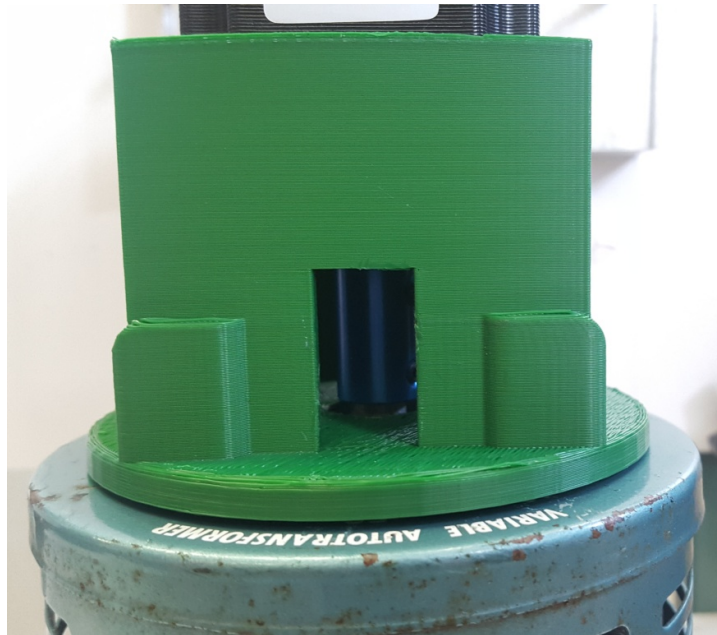

Figure 17 Coupler with lock screw
8. Navigate to Tools->Serial Monitor on the taskbar. This window keeps the user updated on the status of the experiment. The navigation procedure is shown in Fig 17. **Keep the window open till the experiment is complete !!**